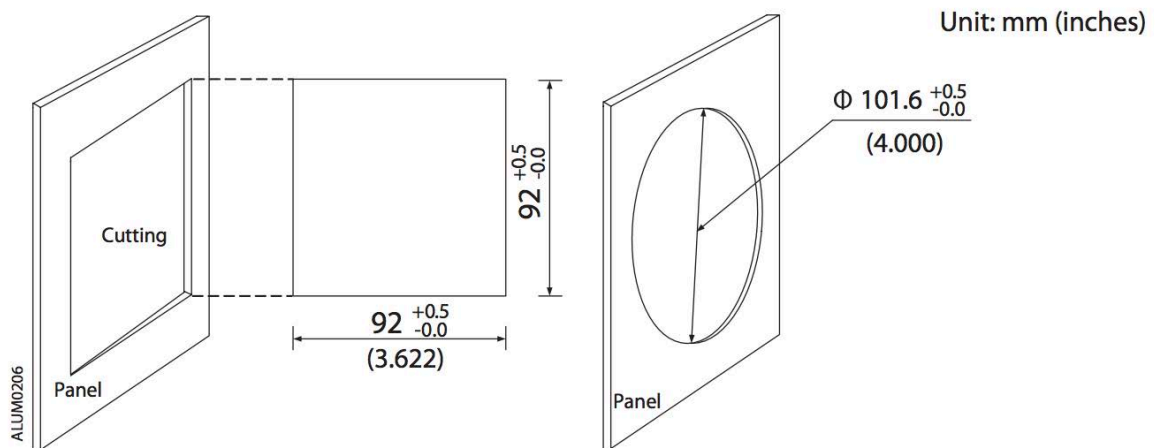

Fig.2-4 Panel cutting
1. Cut a square or round hole on the panel of the switch gear. The cutting size shows as Fig.2-4.